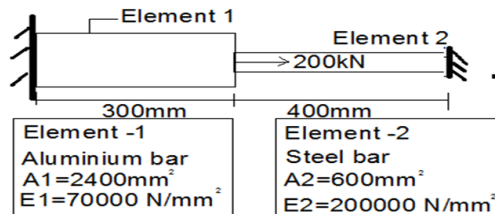

Figure 8
6. (a) A stepped bar is subjected to axial load of 200kN at place of change in cross section as shown in the Figure 8. Find Reaction forces and induced stresses in element 1 and 2 [7M]